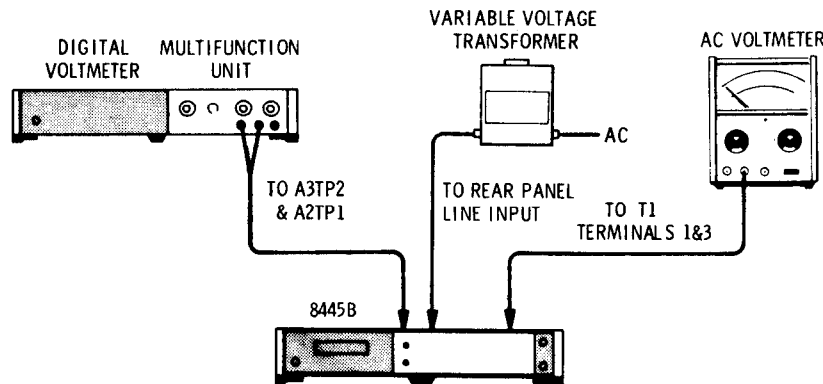

Figure 5-1. Power Supply Adjustment Test Setup
1. Connect test setup as indicated in Figure 5-1. Assure line voltage Power Module printed circuit card is set for the nominal voltage value closest to the existing line voltage (paragraphs 2-7 to 2-9).